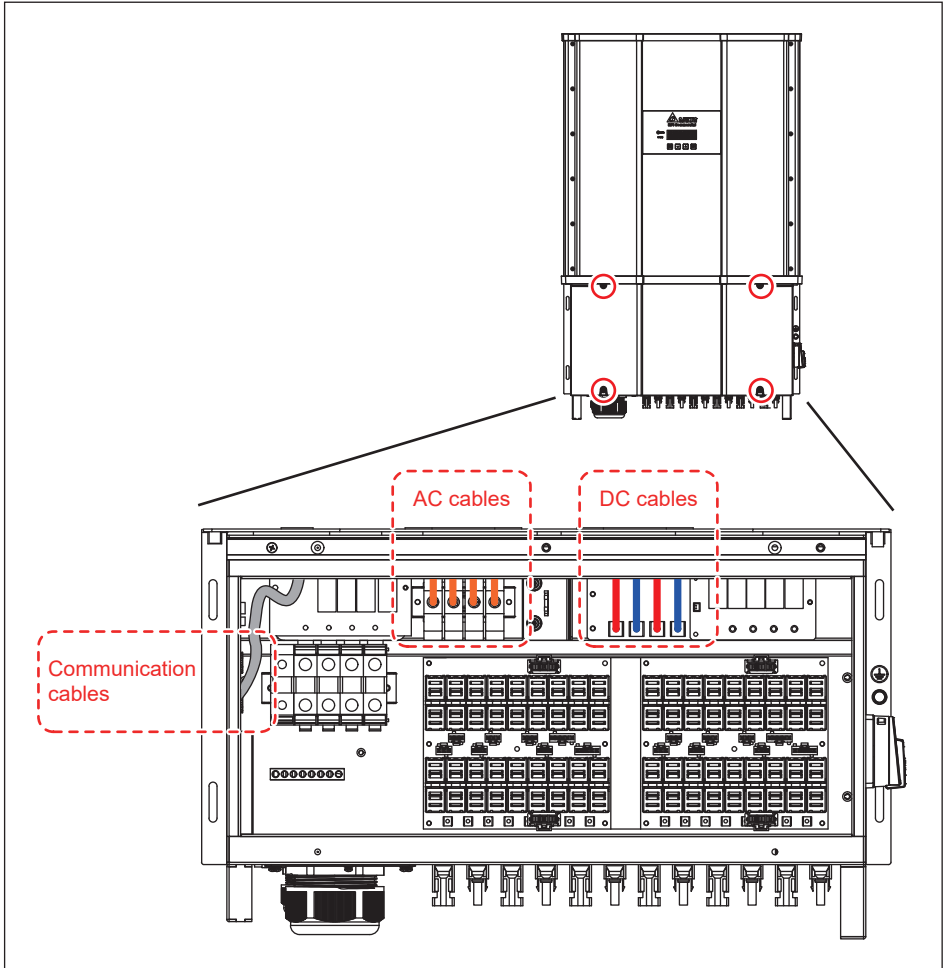

Figure 5-17 : Remove AC, DC, and communication cables and then unscrew 6 screws
6. Unscrew those screws shown in **Figure 5-17**.